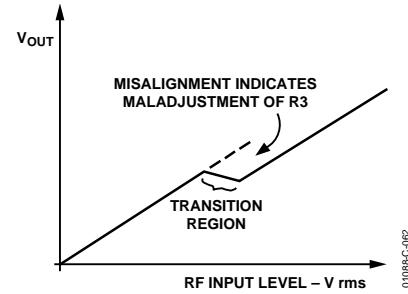

Figure 62. Intercept Adjustment
6. Finally (re)adjust R3 as required to remove any remaining misalignment in the transfer function (see Figure 62).